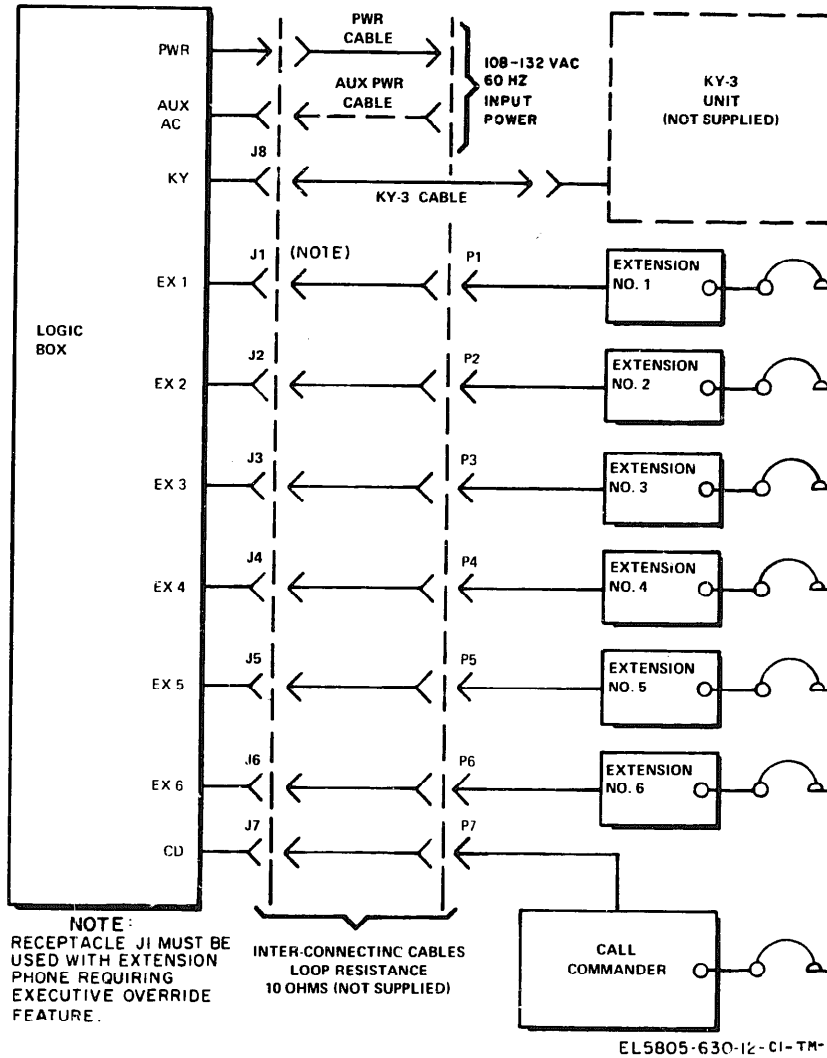

Figure 2-3 Call Director System, Model 134A or 134B, cabling diagram.
b. After location is determined, run 25 pair connector-type running cables to those points shown in figure 2-3.
a. *Call Commander Telephone Set, Type 860 or 860A.* With all cabling interconnected between the call commander, extension phones, logic box, and KY-3 unit (fig. 2-3), proceed as follows:
(1) Place MAIN POWER SWITCH to ON position located at rear of logic box. Check that yellow on/off indicating light at front of logic box is lighted.
(2) Sequentially depress and release each EXT INTERCOM button on the call commander. Check that the corresponding extension phone buzzes and that its INTERCOM button lights only while button is depressed.
(3) Push INCLN BUZZ button on each extension phone. Check that call commander buzzes as each button is depressed.
(4) Push INTERCOM button on all extensions and call commander. Sequentially remove the handset from cradle at each extension phone and check that INTERCOM light on extension phone is lighted and corresponding EXT INTERCOM light on call commander is lighted. Remove call commander handset from cradle and check that INTERCOM light on call commander lights.
(5) Push LINE buttons on all extension phones and call commander.
(6) Lift handset from cradle on each extension phone. Check that call commander has LINE, PLAIN, INCLN MON, and EXT LINE buttons lighted.
(7) Push ALARM button of KY-3 unit. Check for audible buzz at the call commander and verify that ALARM button is lighted. Check that alarm is canceled out by pushing the ALARM button at call commander.
(8) For Type 860 only, push PLAIN button on Call commander. Check that LINE button is lighted and audible ringing sound is heard at call commander.
(9) For Type 860A only, push PLAIN button and LINE button on call commander. Check that LINE button is lighted and that manual switchboard is ringing.
(10) Push LINE button on call commander with handset off the cradle. Check DIAL INDICATOR on the KY-3 unit to see that the light is on. Rotate dial on the call commander. See that DIAL INDICATOR light flashes at the KY-3 unit as the dial rotates.